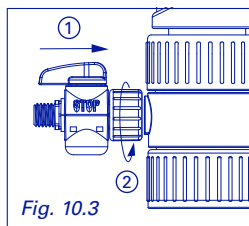

Fig. 10.3
- 2 Mount stopcock on dispenser (Fig. 10.3)